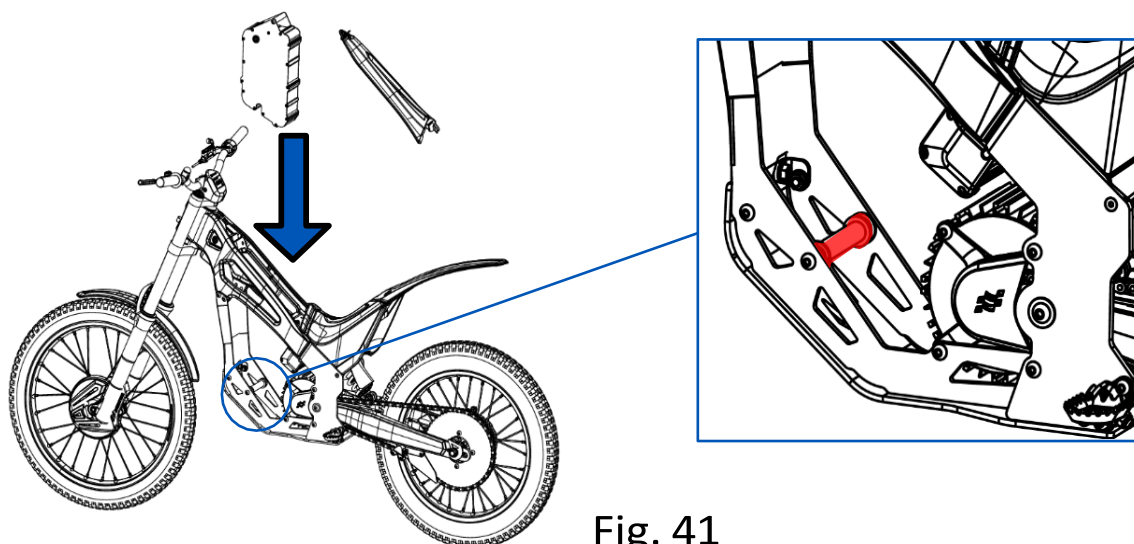

Fig. 41
- 3- Slide the battery into the interior of the motorcycle (Figure 41). Make sure that the battery socket is correctly positioned with the chassis anchor bar (marked in red in the image).